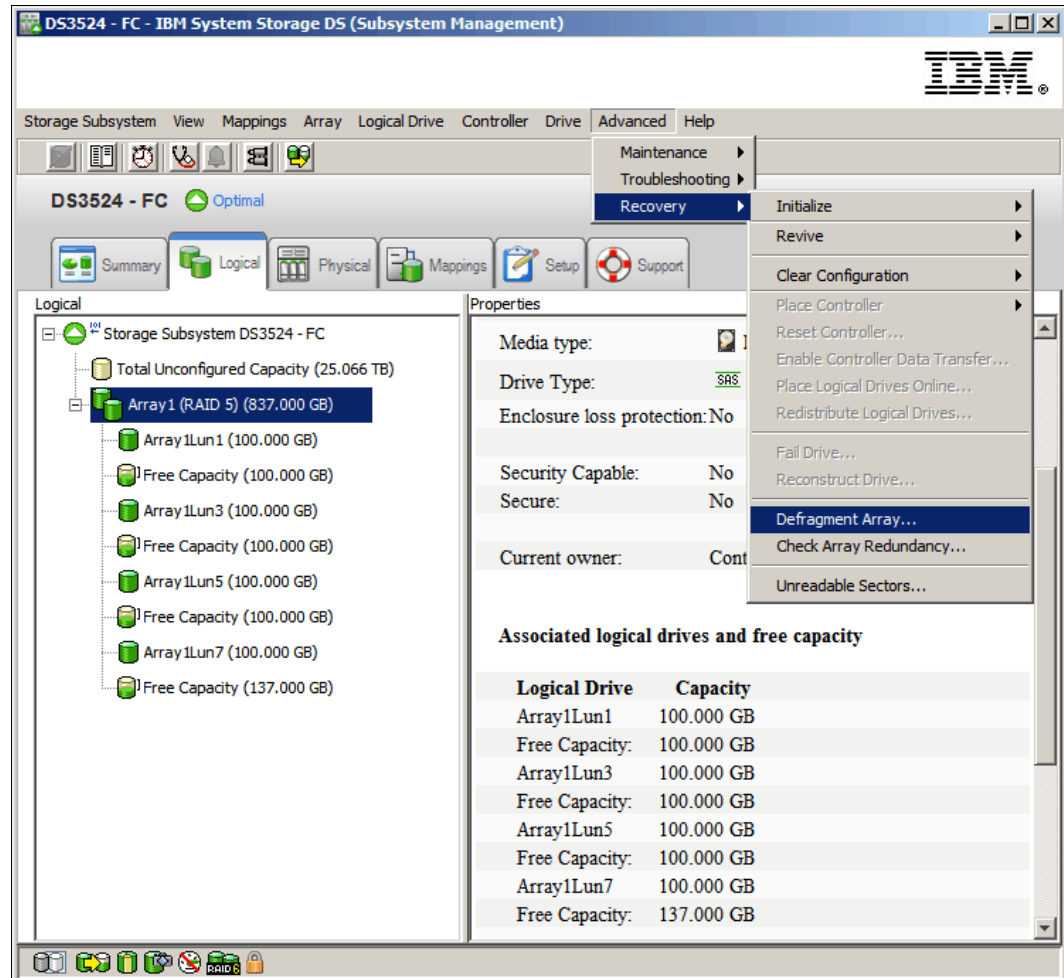

Figure 14-148 Defragment Array
1. In the Logical tab of the DS Storage Manager (Subsystem Management) window, select the array and click **Advanced** → **Recovery** → **Defragment Array** as shown in Figure 14-148.